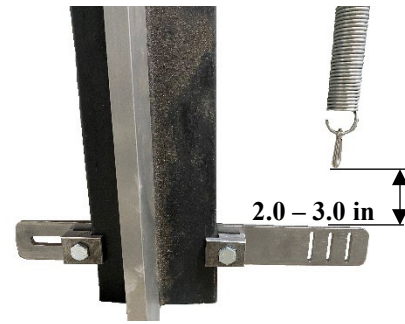

Figure 23: Distance from Bottom Carabiner of Tension Spring to Top of the Bottom Rail Fastening Plate
- a. Choose a hole such that the distance between the bottom of the spring's bottom carabiner and the top of the Rail Fastening Plate is between 2.0 – 3.0 inches when the spring is hanging and unstretched. See Figure 23